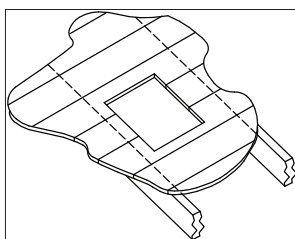

Figure 19
5. Remove shingles or other roof covering as necessary to cut the rectangular hole for the Support Box. Cut the hole $\frac{1}{8}$ " larger than the dimensions of the Support Box. (**Figure 19**). The rectangular hole should be centered on the small hole which you drilled through the ceiling to mark the location. Again, verify that you are not cutting through rafters or framing members.